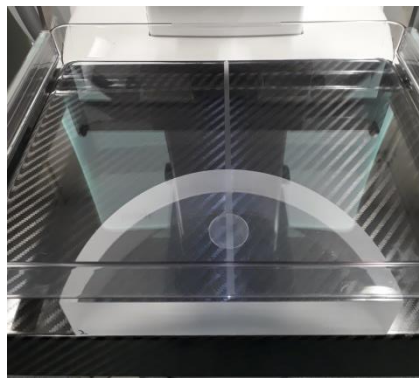

Figure 1. D Phantom positioning
5. Place the D phantom with its flat side aligned along the chest wall edge of the bucky, centered right to left, and the 1 mm disc on top. Use care to position the phantom consistently every time the test is performed. Figure 1. D Phantom positioningFigure 11 illustrates proper phantom positioning.